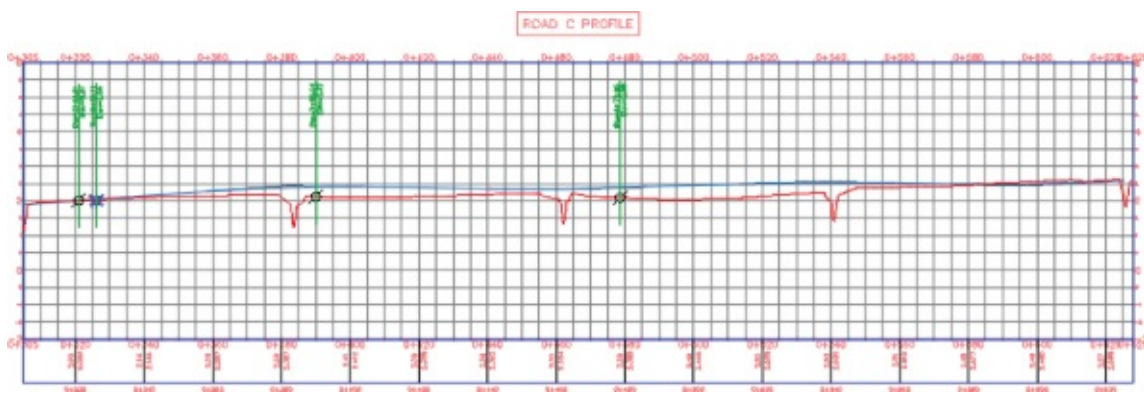

Figure 7.75 The COGO point objects projected into a profile view
6. Click OK to dismiss the dialog, and review your results, as shown in Figure 7.75.